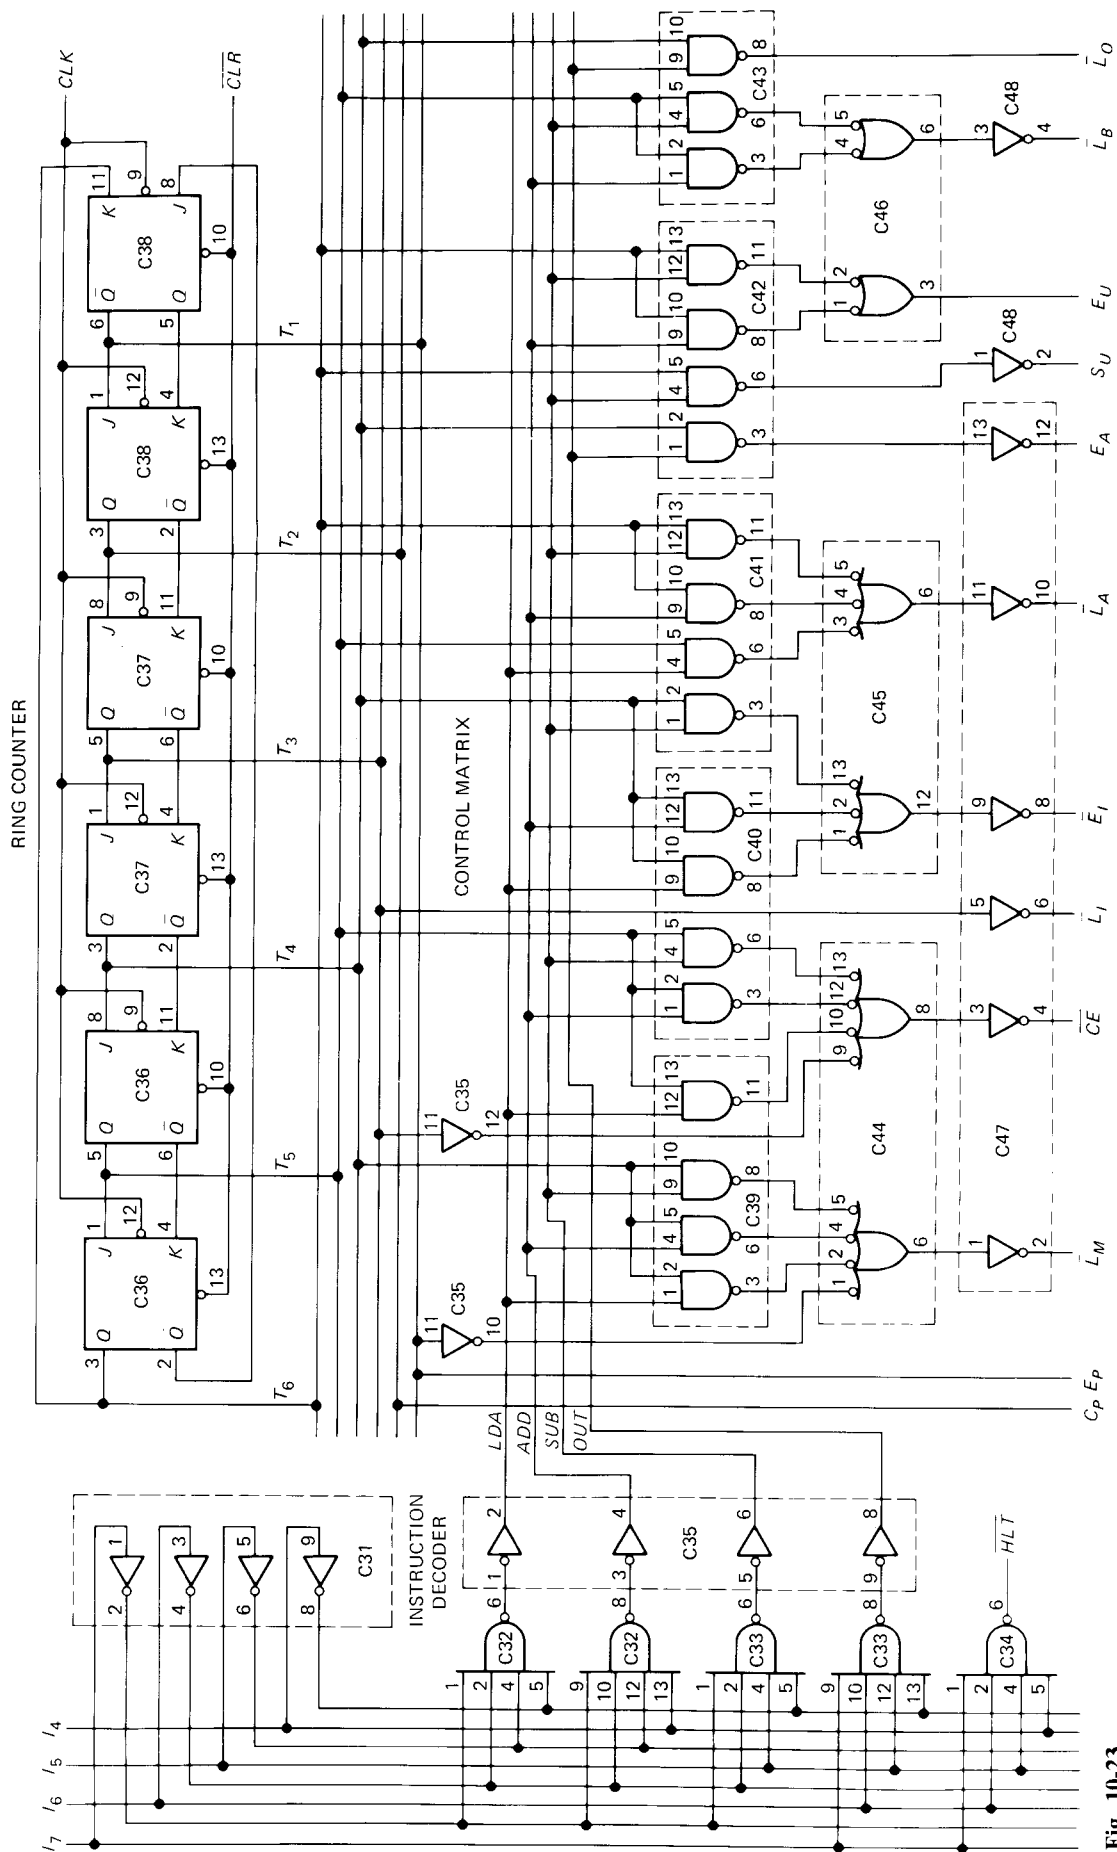

Fig. 10-23
- 10-12.** Refer to Fig. 10-23 to answer the following: